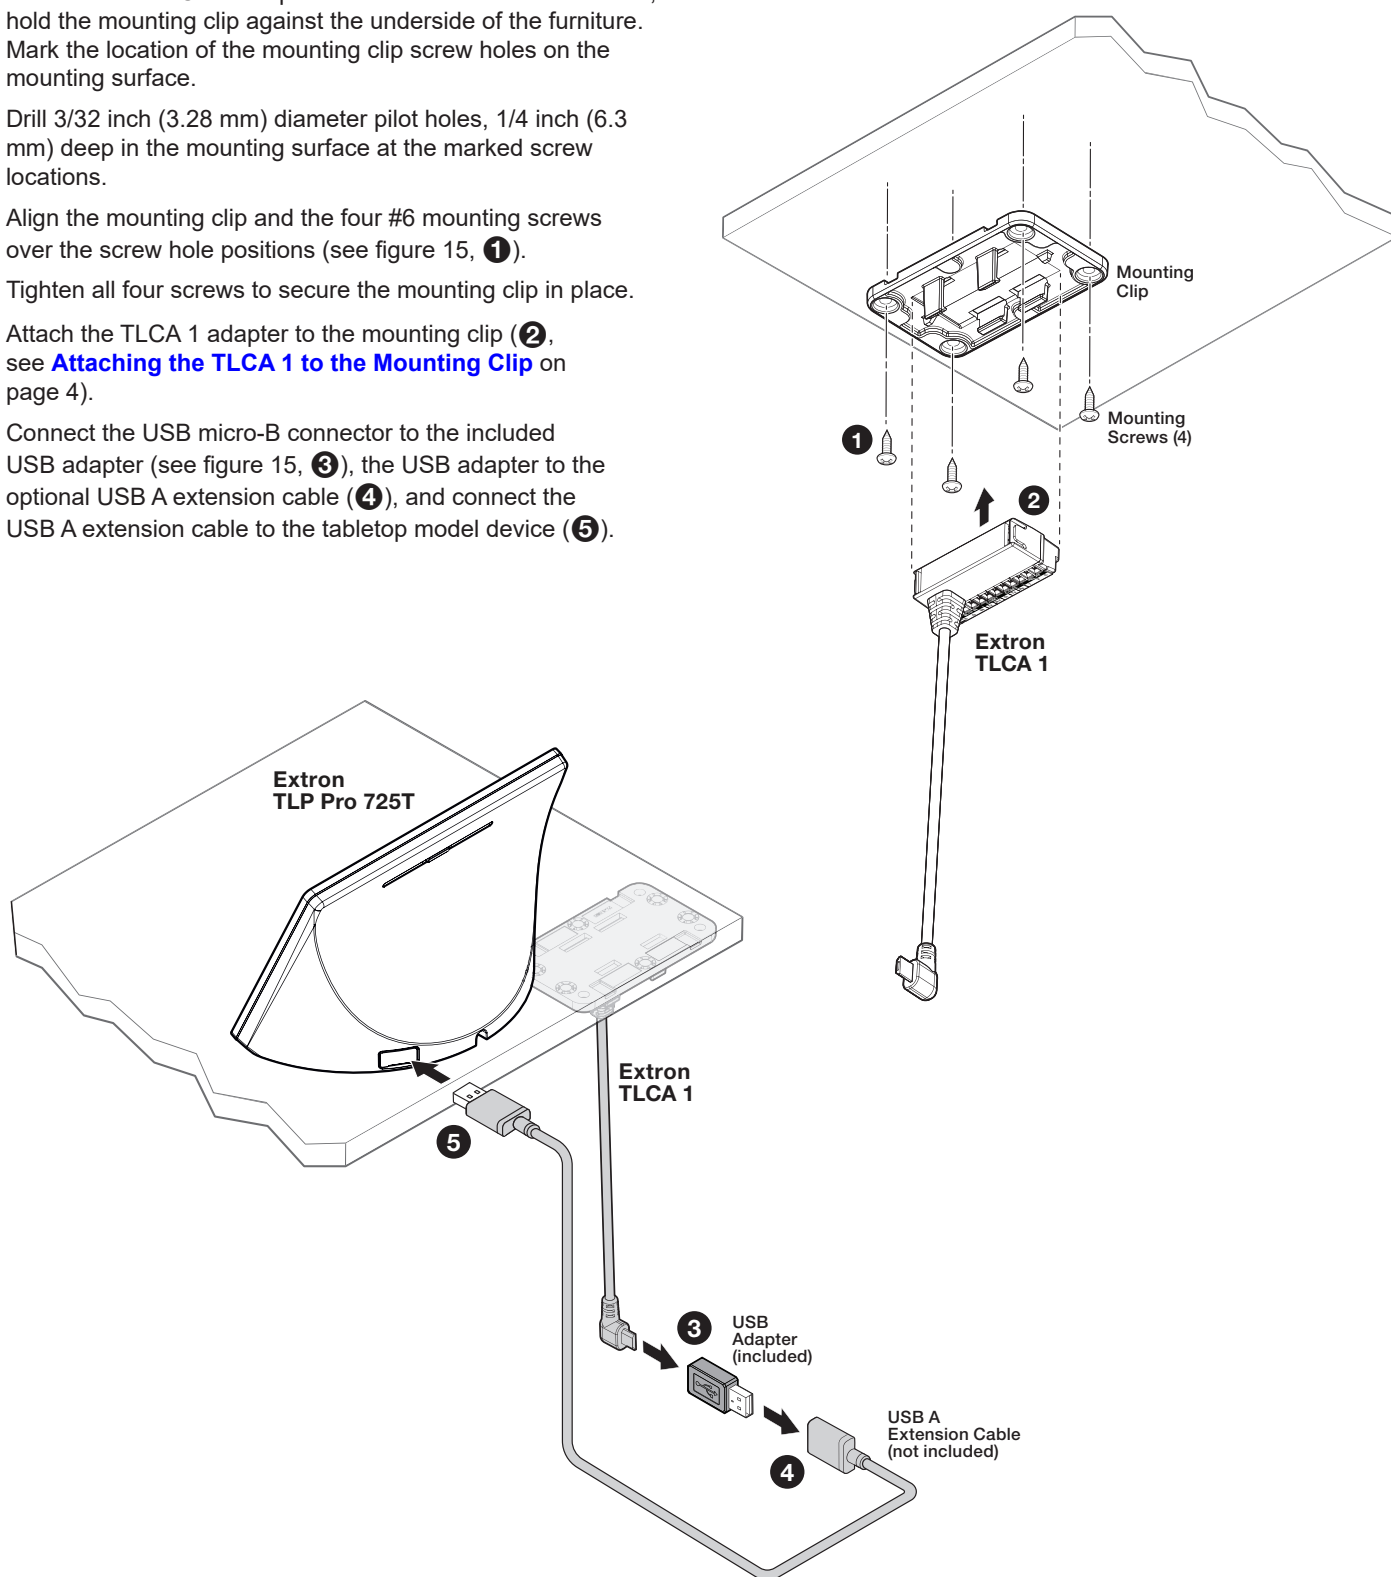

Figure 15. Mounting under a Desk (tabletop TLP with USB A extension cable)
Align the mounting clip and the four #6 mounting screws over the screw hole positions (see figure 15, ①).
Connect the USB micro-B connector to the included USB adapter (see figure 15, ③), the USB adapter to the optional USB A extension cable (④), and connect the USB A extension cable to the tabletop model device (⑤).